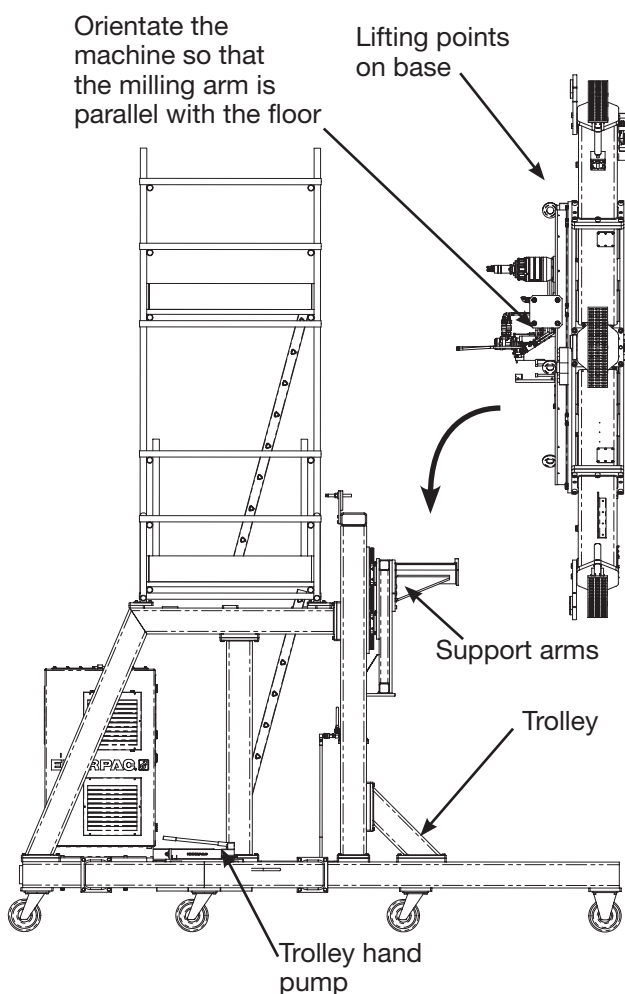

Figure 9: Machine and trolley
4. The **Installation Trolley** features a hydraulic jack that allows the height of the machine to be altered in the trolley. This allows the centre heights of the 'Blade Root' & machine to be aligned. (See figure 9 for pump location on trolley).